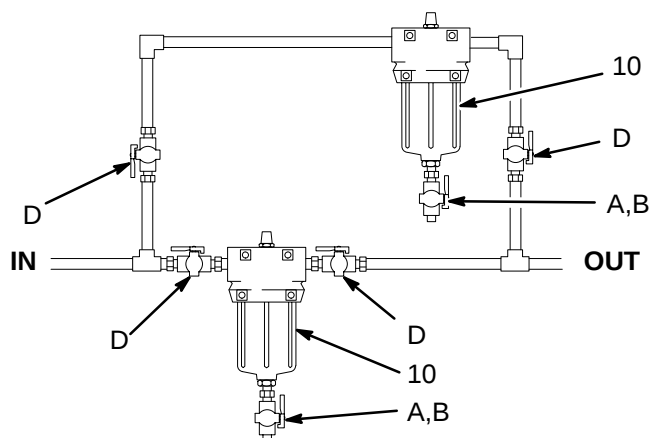

Fig. 1 **Dual Filter System**
The numbers and letters in parentheses refer to Figs. 1, 2, and 3 and the Parts Drawing. **Accessories** and **Technical Data** are on the front page.
Remove the 3/4 unf plug (12) from the bottom of the filter and install a high pressure adapter and drain valve (A,B). See Fig. 1.
Install two filters as shown in Fig. 1. Install four suitable shutoff valves (D), one at each filter and outlet, to redirect the fluid and isolate the filter not in use.